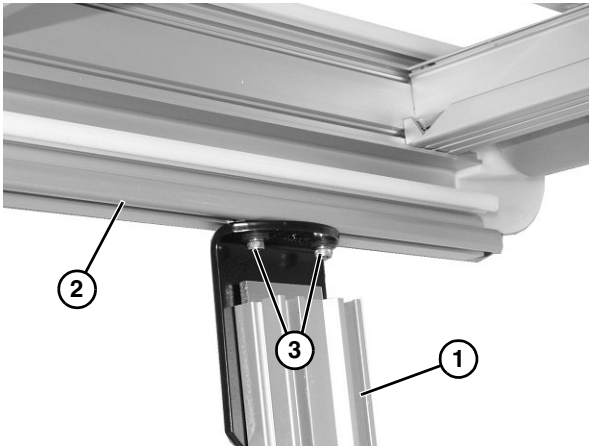

Figure 21
2. Attach stands (**Figure 21, item 1**) to the bottom of the conveyor frame (**Figure 21, item 2**). Tighten socket head screws (**Figure 21, item 3**), on each side, to secure in place.